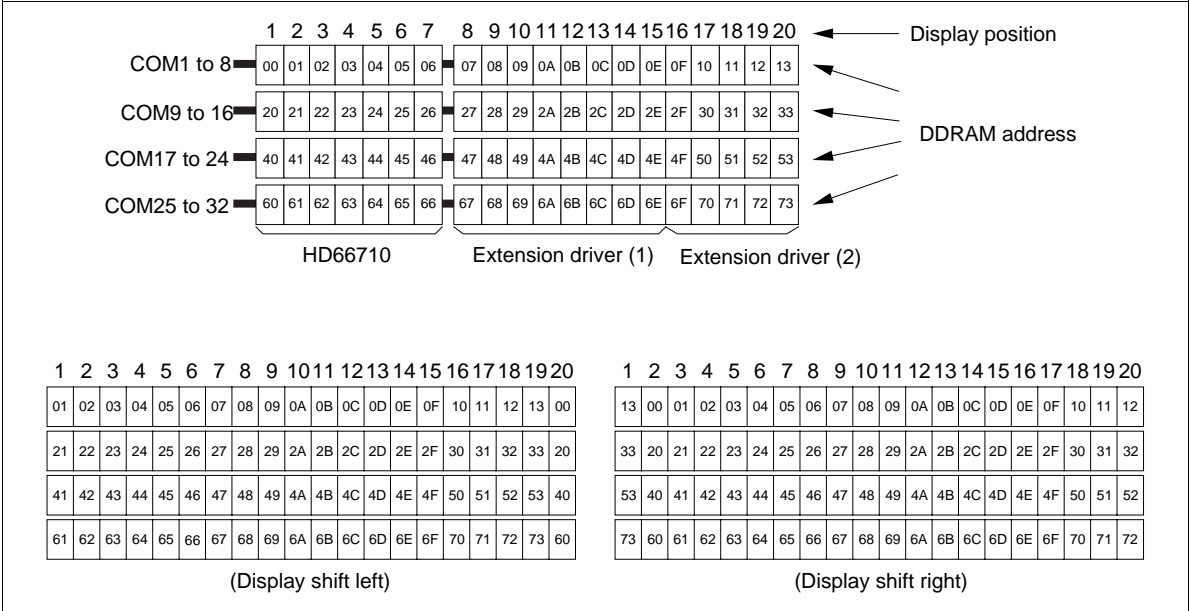

Figure 7 4-Line by 20-Character Display Example
- When a display shift operation is performed, the DDRAM address shifts. See Figure 7.